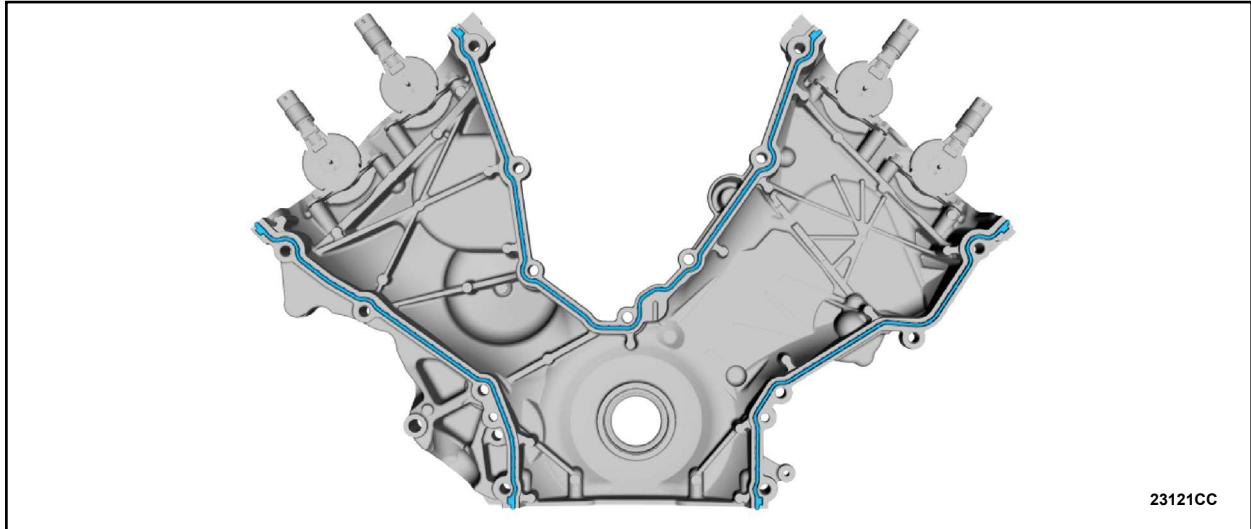

FIGURE 38
21. Install *new* gaskets on the *new* engine front cover. See Figure 38.